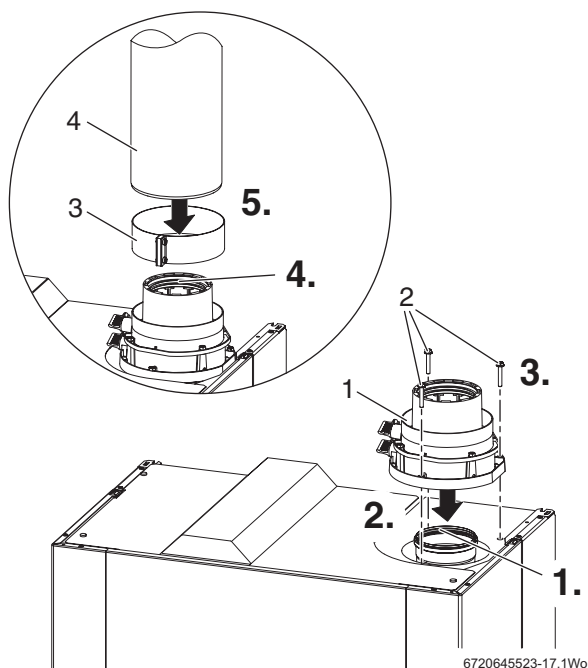

Fig. 27 Vertical flue
1. Refer to figure 27 and apply a light smear of grease to the flue outlet seal to aid fitting the vertical adapter.